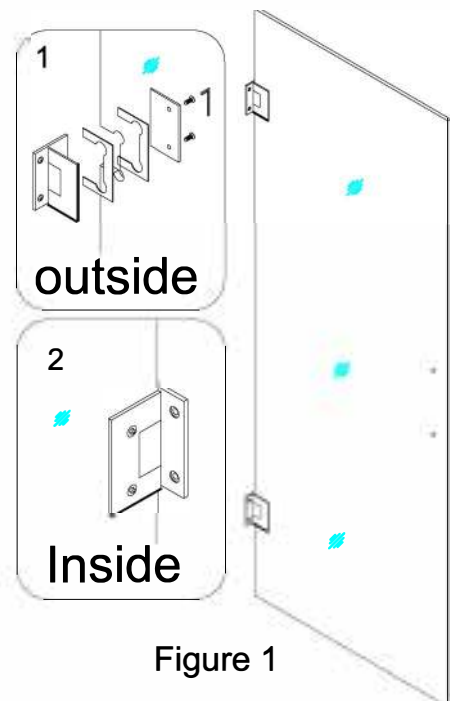

Figure 1
1. Remove pre-installed screw from pre-assembled Hinge (05).
Attach the Hinges (05) to Glass door (01). The smooth flat surface of Hinge (05) should be installed on outside of glass door. See Figure 1 for details.